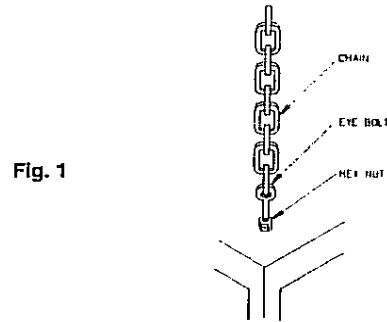

Fig. 1
The recommended style of attachment is shown in Figure 1, and described in Steps 3 through 5.
4. Firmly secure four chains of equal strength to a firm structural support. Wire of equal or greater strength may be used in lieu of chains. (Fig. 1)
**CAUTION: IF UNIT IS TO BE SUSPENDED BY OTHER MEANS SUCH AS AN ANGLE IRON ASSEMBLY OR A WALL MOUNT, BE CERTAIN THAT SUCH AN ASSEMBLY CAN SUPPORT FOUR TIMES THE TOTAL WEIGHT OF THE UNIT(S) INSTALLED.**